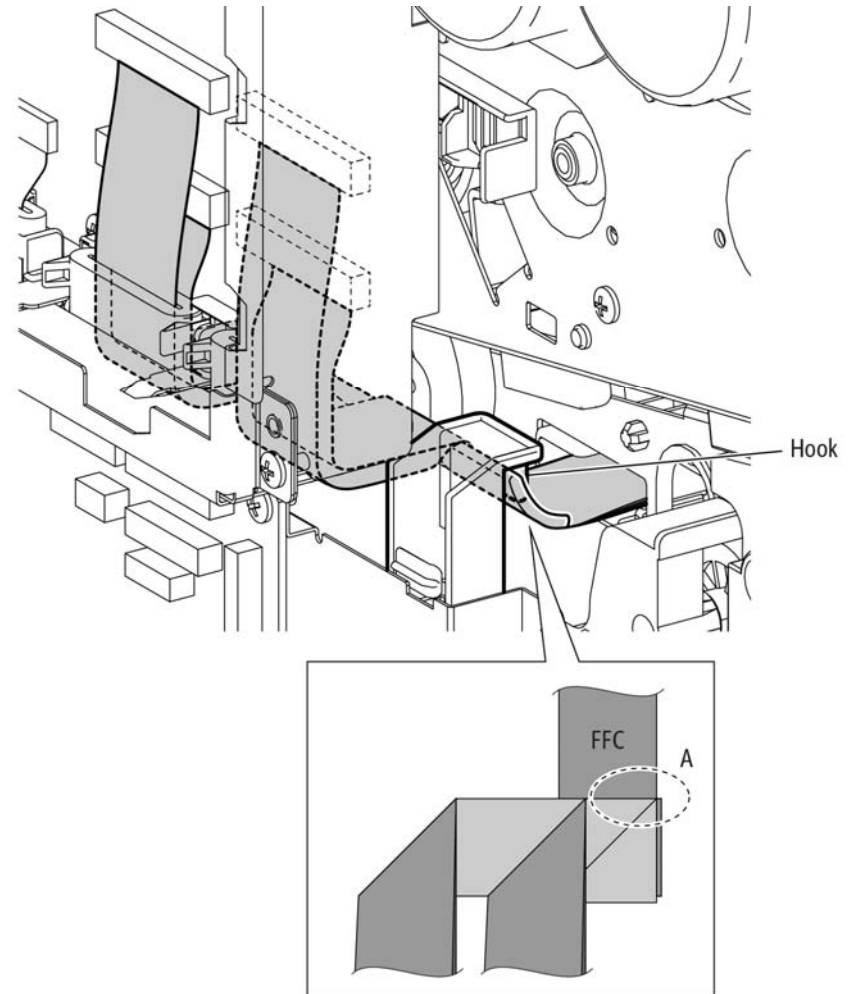

Figure 8 Position FFC to avoid damage
3. Check the bend of the cable at location (A) in the inset and at the hook, Figure 8.